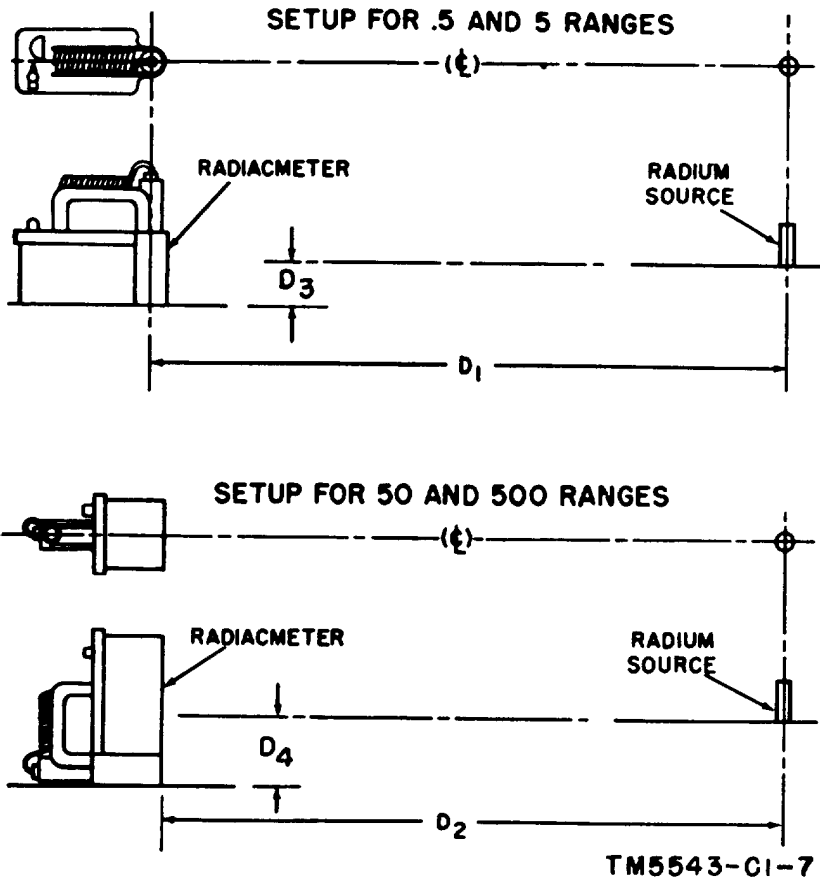

Figure 7-5. (Superseded) Calibration set-up data.
Step 2. Arrange the equipment as indicated in figure 7-5 according to distance measurements given in table 7-1.1. Measure and adjust * * * source in inches.